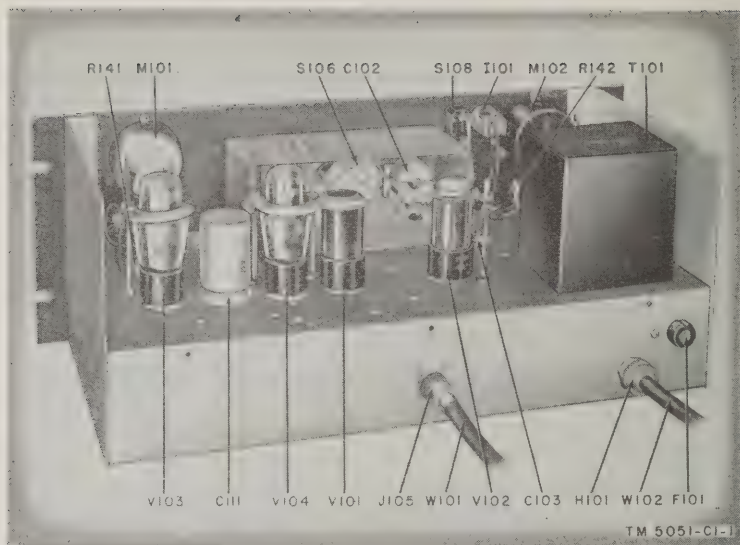

Figure 11.1. (Added) Panel and chassis assembly, rear view, (TS-330/TSM (6883-Phila-51)).
*Note.* (Added) Tube retainers secure the tubes in the TS-330/TSM (6883-Phila-51). Before placing the tubes into their sockets, loosen and remove the tube retainer nuts. Insert the tubes into their respective sockets. Slide the tube retainers over the tubes (fig. 11.1) and tighten the tube retainer nuts.
- (1.1) (Added) On Crystal Impedance Meter TS-330/TSM- (6883-P-51) only, remove the tube retainers by loosening and removing the tube retainer nuts (fig. 11.1).